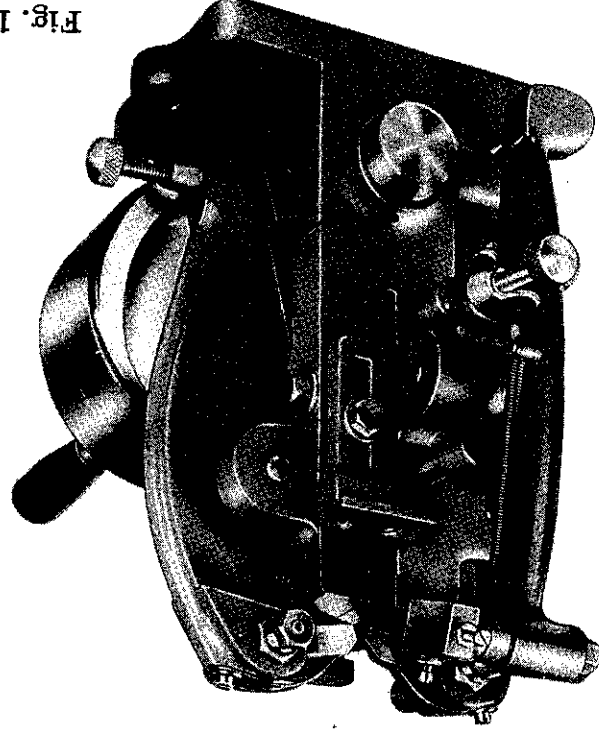

Fig. 15
- (1) The use of a hand setting tool of the plier type.
- (2) Machine setting. The standard filing machine described on page 15 can be changed over from filing to setting action, but many firms prefer to install a separate inexpensive setting machine as described on page 16. The difference between the machines (Figures 15 and 16) is one of capacity of saw width and pitch, and the advantage of these machines is that the strikers which push the teeth over, are arranged on opposite sides of the blade, and strike adjacent teeth simultaneously. In this way the shock of the two strikers cancel each other out, and does not damage the body of the band ribbon.